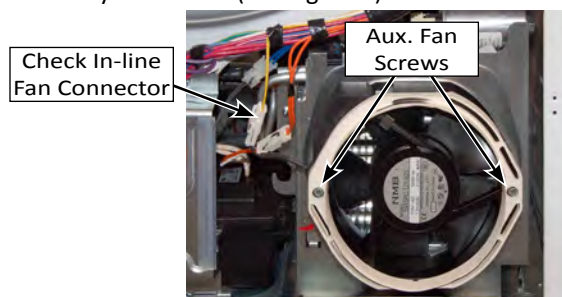

Figure 2 - Auxiliary Fan
8. Visually check that the in-line fan connector (yellow wires) is securely connected (see Figure 2).